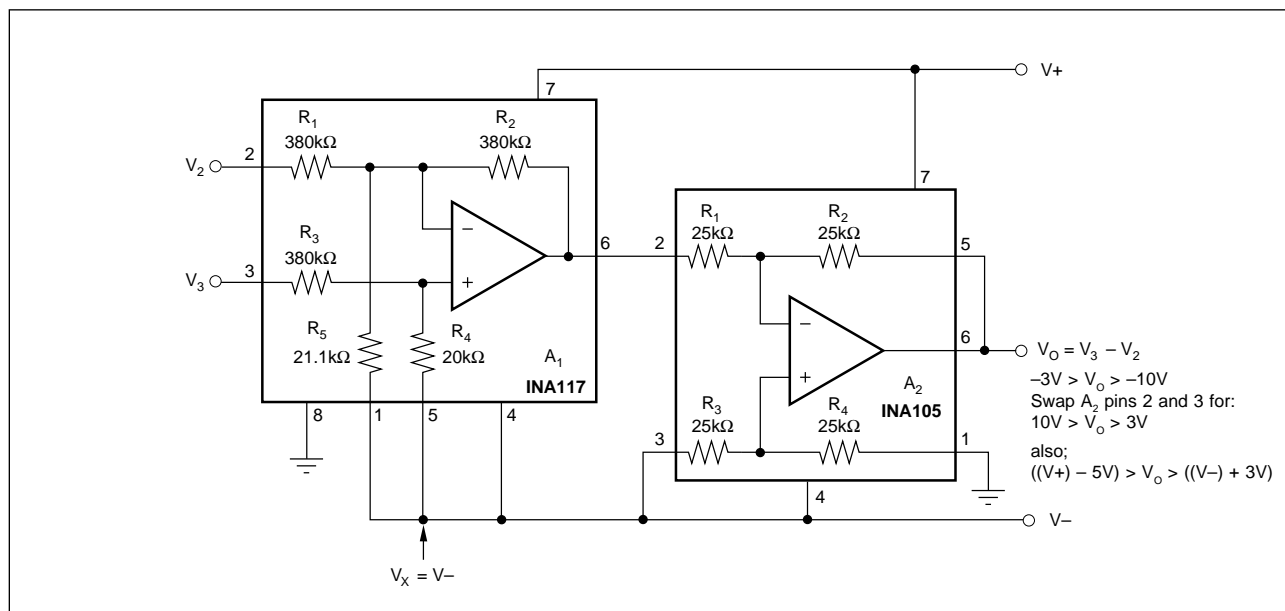
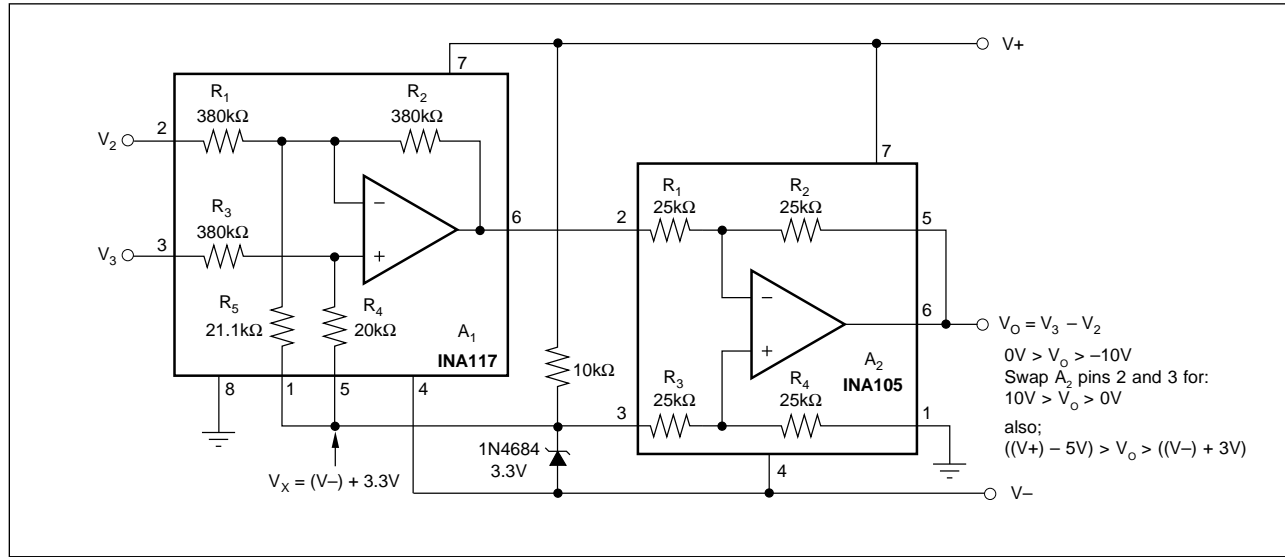

FIGURE 1. Offsetting the INA117 Common-Mode Input Range Using the Negative Power Supply as a Reference.
FIGURE 2. Offsetting the INA117 Common-Mode Input Range with a Zener Reference.
One way to offset the input voltage is to connect the reference pins 1 and 5 to the negative supply voltage as shown in Figure 1. Another possibility is to derive the offset voltage from a zener diode connected to the negative power supply as shown in Figure 2. In either case, the total common-mode range of the INA117 is unchanged and shifted by $-19 \cdot (V_x)$.
NOTES: (1) Reference connected to GND (normal operation). (2) Reference connected to $V-$ (see Figure 1). (3) Reference connected to $V-$ through 3.3V zener (see Figure 2). (4) Voltages greater than ±200V are shown for reference only. INA117 maximum rated operating voltage is ±200V.
With zero differential input voltage to the difference amplifier, the output will be at zero volts with respect to the reference connection, V_X . The circuits in Figure 1 or 3 will not work with zero differential input. Since the difference amp reference pin is connected to $V-$, the output of the difference amp would saturate to its negative swing limit in an attempt to swing to $V-$. For the circuit to work, the differential input must be at least 3V so that the output of the difference amplifier is at 3V from $V-$. The input to the difference amplifier can be either +3V or -3V and the input connections (pins 2 and 3) can be interchanged to provide the proper output swing.
The circuits in Figures 2 and 4 will function with zero differential input since the reference is connected 3.3V from $V-$. Output swing in response to input signal must, however, always be in the positive direction. As before, the inputs of both difference amplifiers can be connected to accommodate any polarity of input/output swing.